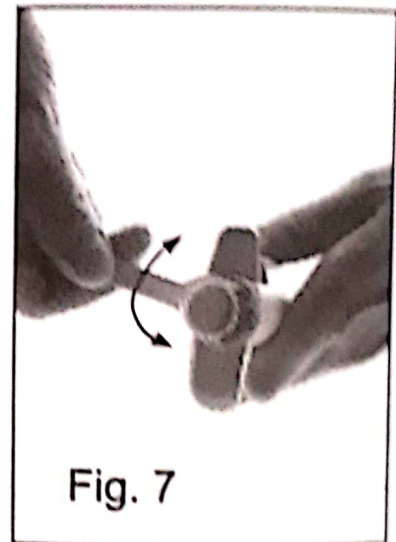

Fig. 7
- Place the calibration tool into the holes of the calibration adjustment lock (under the thumb button) (Fig. 7).